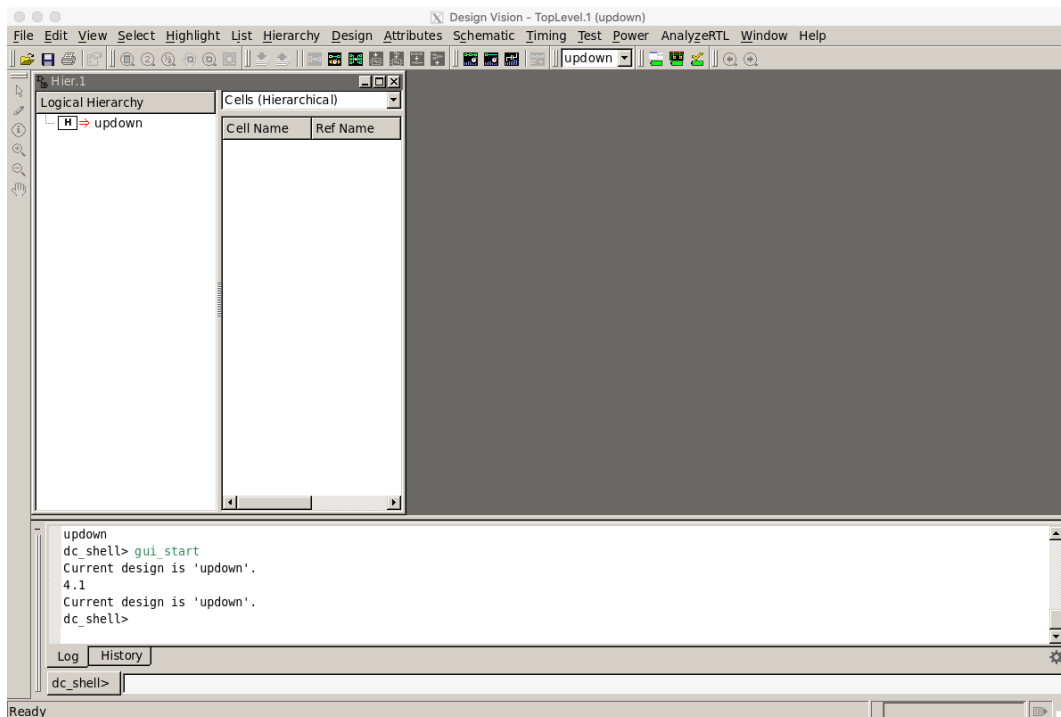

Figure 4: Design Compiler graphical user interface.
16. In order to view the schematic of the synthesized design, we must first invoke the GUI of DC. After invoking the GUI, a new window should appear similar to the one shown in Figure 4.